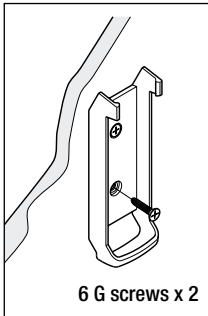

Fig. 28
4. Screw the cradle to the wall using 2 of 6 G screws (not supplied) and tighten screws (Fig. 28)